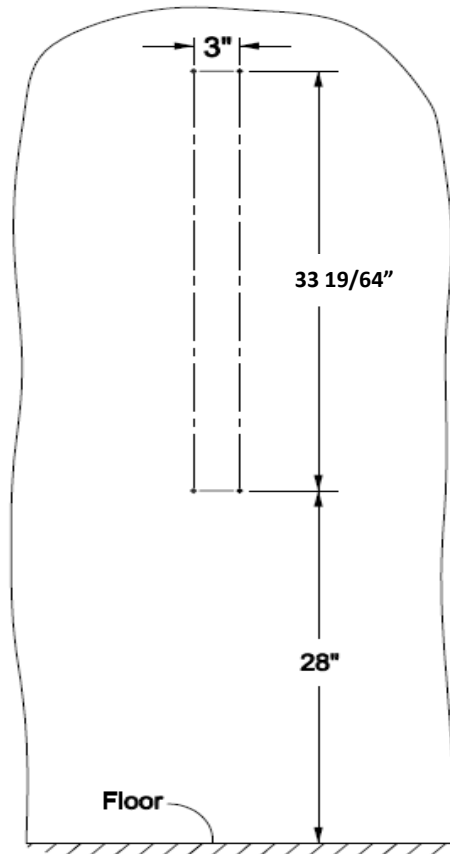

Figure 5B
1. Using the mounting hole pattern depicted (Figure 5B), drill pilot holes if necessary, and attach the 3704 EVSE to the wall. Do not fully tighten the screws.